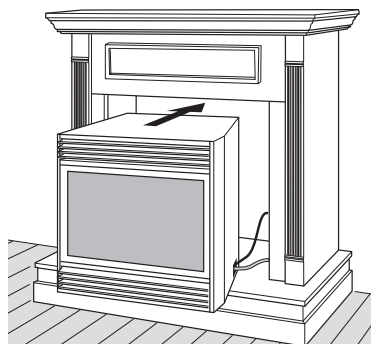
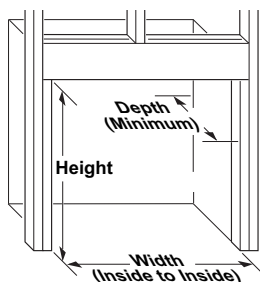

Figure 12 - Inserting Fireplace Into Cabinet Mantel
Figure 13 - Rough Opening for Installing in Wall
1. Frame in rough opening. Use dimensions shown in Figure 13 for the rough opening. If installing in a corner, use dimensions shown in Figure 14, Figure 12, for the rough opening.